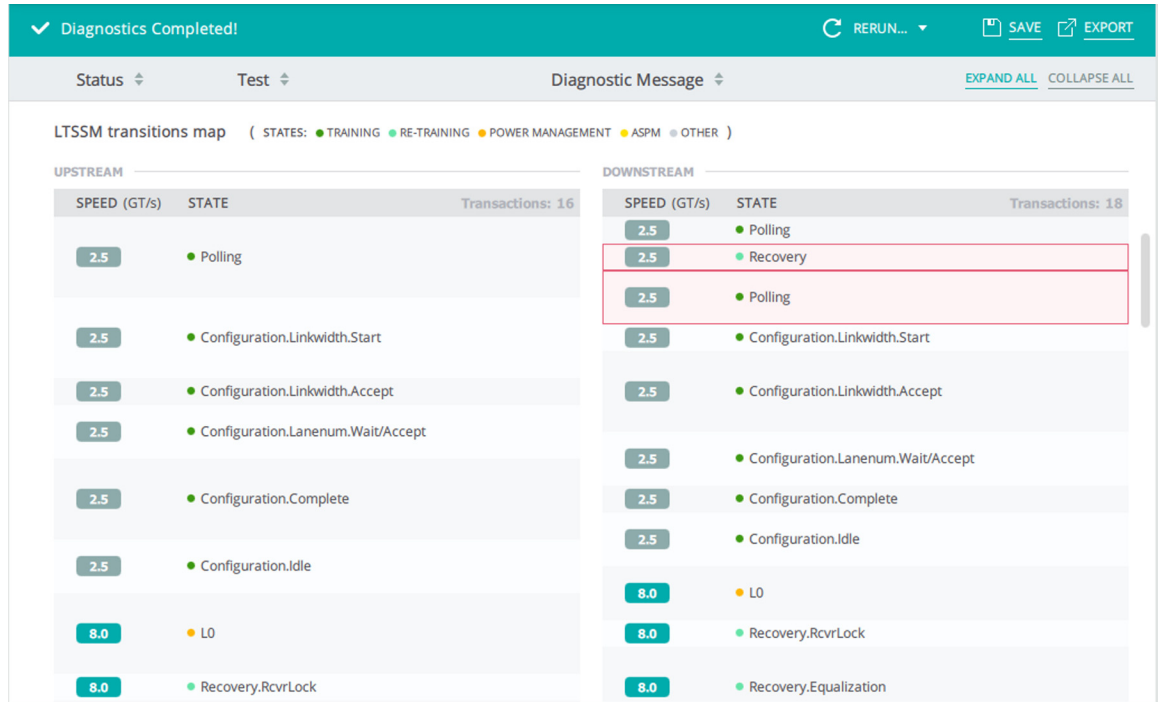

Figure 5.6: Link Establishment: Warning Message -> LTSSM Transitions Map
- LTSSM Transitions Map (see Figure 5.6 on page 195).